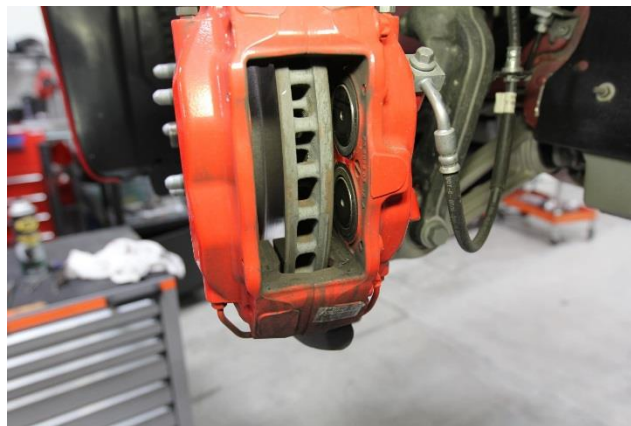

Figure 8 (Front caliper shown, rear caliper similar)
- Remove the brake pads from the front LH caliper (Figure 8).